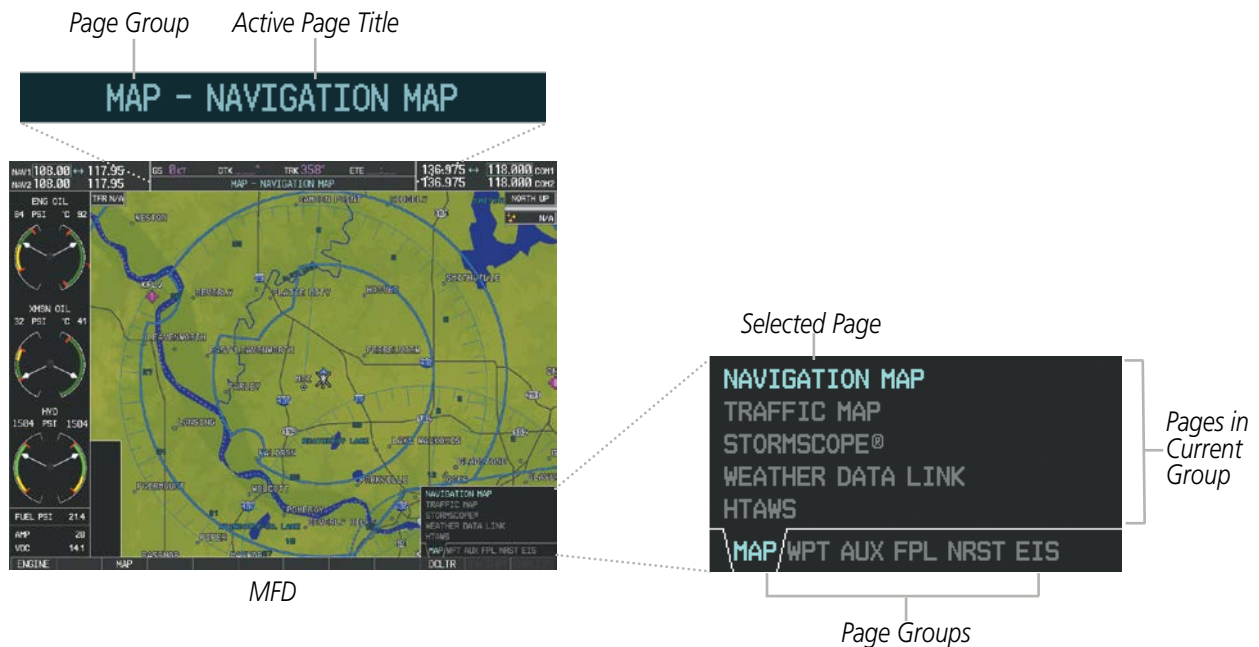

Figure 1-18 Page Title and Page Groups
- 2) Turn the large **FMS** Knob until the desired page group is selected. For example, the MAP page group is selected in Figure 1-18.